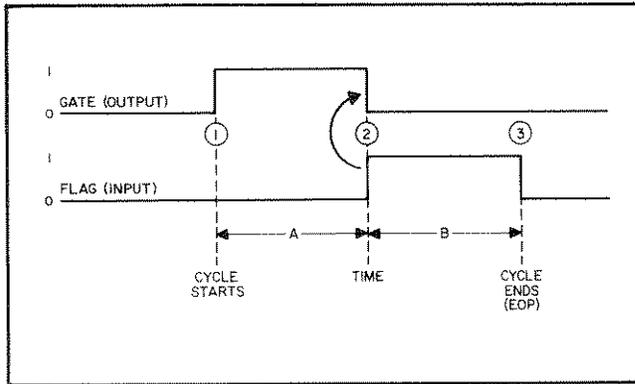

Figure 4-4. Gate/flag Handshake
4-42 As shown in Figure 4-4, the handshake begins at time ①, when the control chip starts the cycle by making GATE = 1. (The data is latched into the second rank storage register simultaneously). At time ②, the external device acknowledges receipt of the gate signal by setting FLAG = 1, and this causes the control chip to clear gate (GATE = 0). The sequence does not complete (and the control chip does not signal the microprocessor) until the trailing edge of flag, at time ③. This gives the external device maximum flexibility. It can, depending upon its particular circuitry, delay the handshake in either time period A or B. For example, an external D/A response to the gate signal by setting a busy status line. At the completion of the conversion (10 msec), the busy line is reset = 0. This busy status line can be tied directly to the flag input, in which case the D/A holds off the output card in time period B.
**4-51 External Gate/Flag.** Again, the situation arises when the card can complete very quickly, but the external device might be slow. In the case of inputs, if the data is loaded into the input latch before the external device can transmit the correct data to the input card, erroneous data will be stored in the input latch. To avoid this problem, a way to synchronize the external device with the Multiprogrammer is required so the data is not stored until the external device has transmitted it. Just as with output cards, the gate/flag handshake can be extended to the external device. Again refer to the gate/flag handshake in Figure 4-4. Although the card